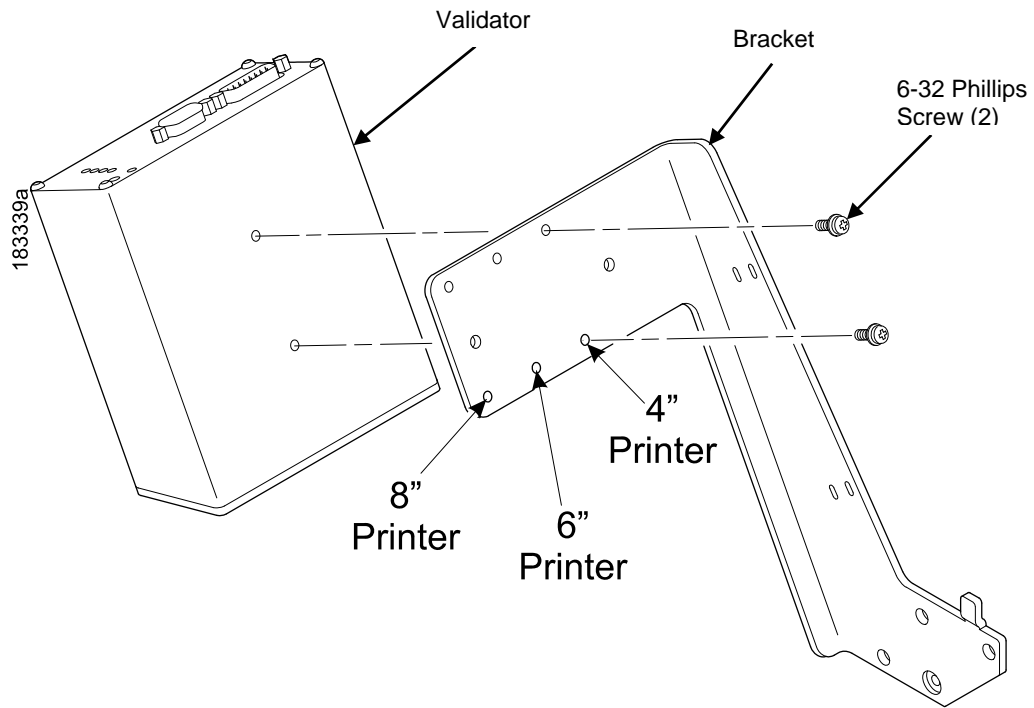

Figure 12 Attaching the Validator to the Bracket
1. Using two 6-32 Phillips head screws, attach the validator to the bracket as shown in Figure 12.